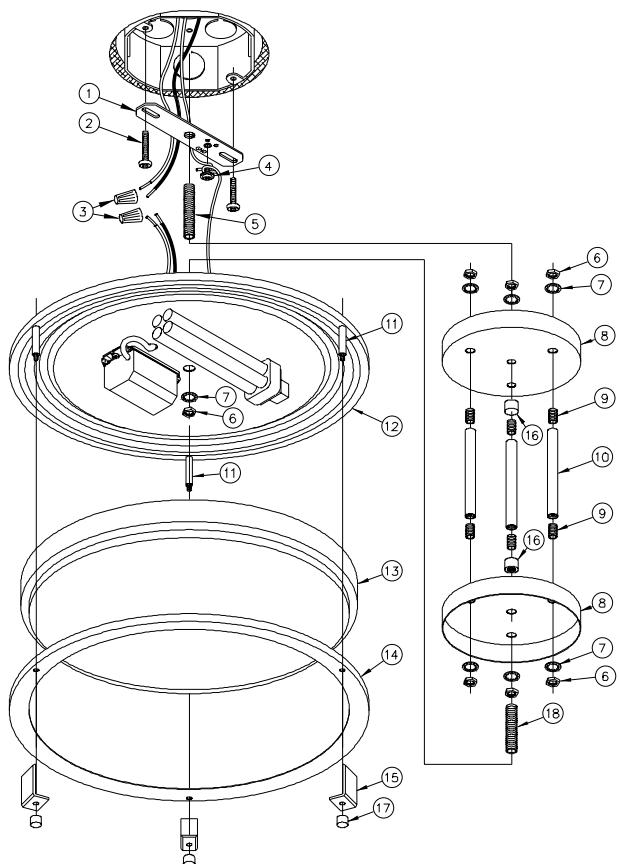
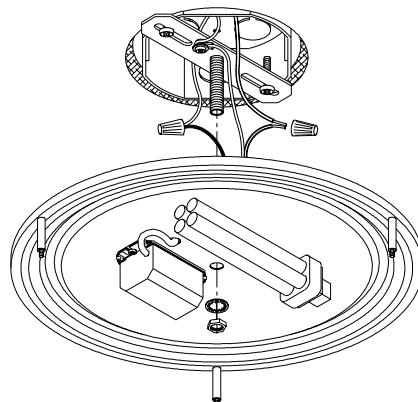

Figure 1
Figure 3
1. Remove fixture components and parts pack(s). Check that all parts are included. **See Figure 1.**
3. Attach crossbar to junction box with the (2) #8 x 1 machine screws. (head of green screw should face downward.)
4. Screw the 1/8IP x 1½" nipple into the center hole of the crossbar about ¼ inch. **See Figure 3.**
5A. With the power off, connect the copper ground wire from the junction box to the fixture by wrapping it under the head of the green ground screw and tightening the screw. (If house wiring includes no ground wire consult your local electrical code for approved methods). **See Figure 3.**
6A. Use wirenuts to connect the black fixture wire(s) to the black power supply wire and white fixture wire(s) to white power supply wire. **See Figure 3.**
See Figure 3.
9B. With the power off, hold the fixture firmly and connect the ground wire from the fixture to the junction box, by wrapping them under the head of the green ground screw and securing them to the crossbar. (If house wiring includes no ground wire consult your local electrical code for approved methods). See Figure 3.
10B. Use wirenuts to connect the black fixture wire(s) to the black power supply wire and white fixture wire(s) to white power supply wire. See Figure 3 .